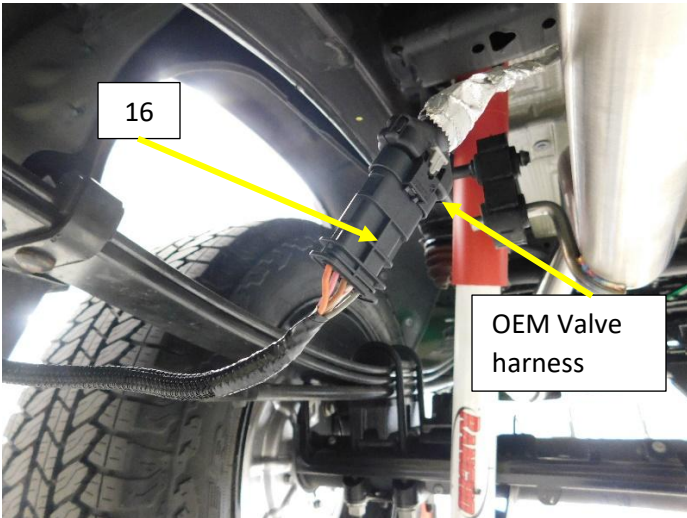

Figure. 20
28. Install the Valve extension harness (16) into the OEM valve harness and lock the latch. **Fig.20**